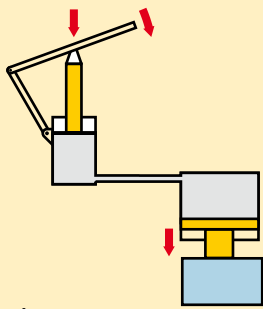

Figure 1
1.1 A simple hydraulic clamping mechanism (Figure 1).